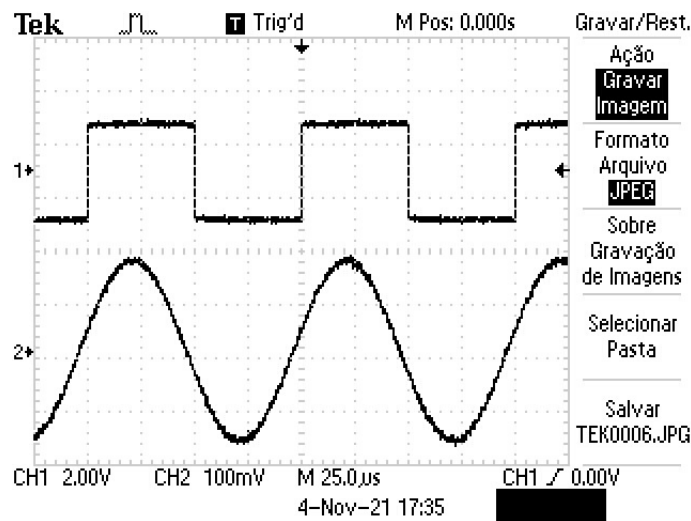

Figure 5: Oscilloscope view of the function generator square wave and analog output of the STM32F746G.
**Question 6 [ 2pt / 10 ]:** now, increase the frequency of the square wave, in steps of 1 kHz, until the STM32F746G output wave looks like a perfect sinusoid, as it is illustrated in Figure 5. What is the frequency after which the output wave looks like a sinusoid and how do you explain it (i.e. how do you understand that it is that value and not some other value) ?